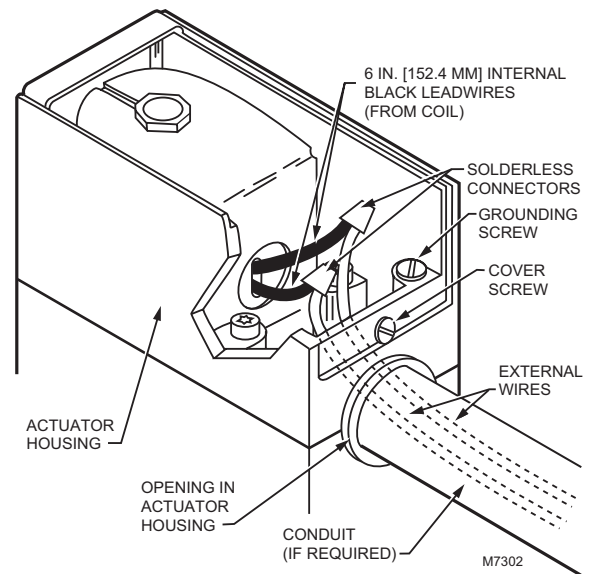

Fig. 7. Making wiring connections.
7. Make wiring connections inside the actuator housing (Fig. 7):
1. Check that there is voltage at the valve actuator (black leadwires, Fig. 7). Be careful—there should be line voltage at the actuator of a V48.
Valve Leak Test (Fig. 7)